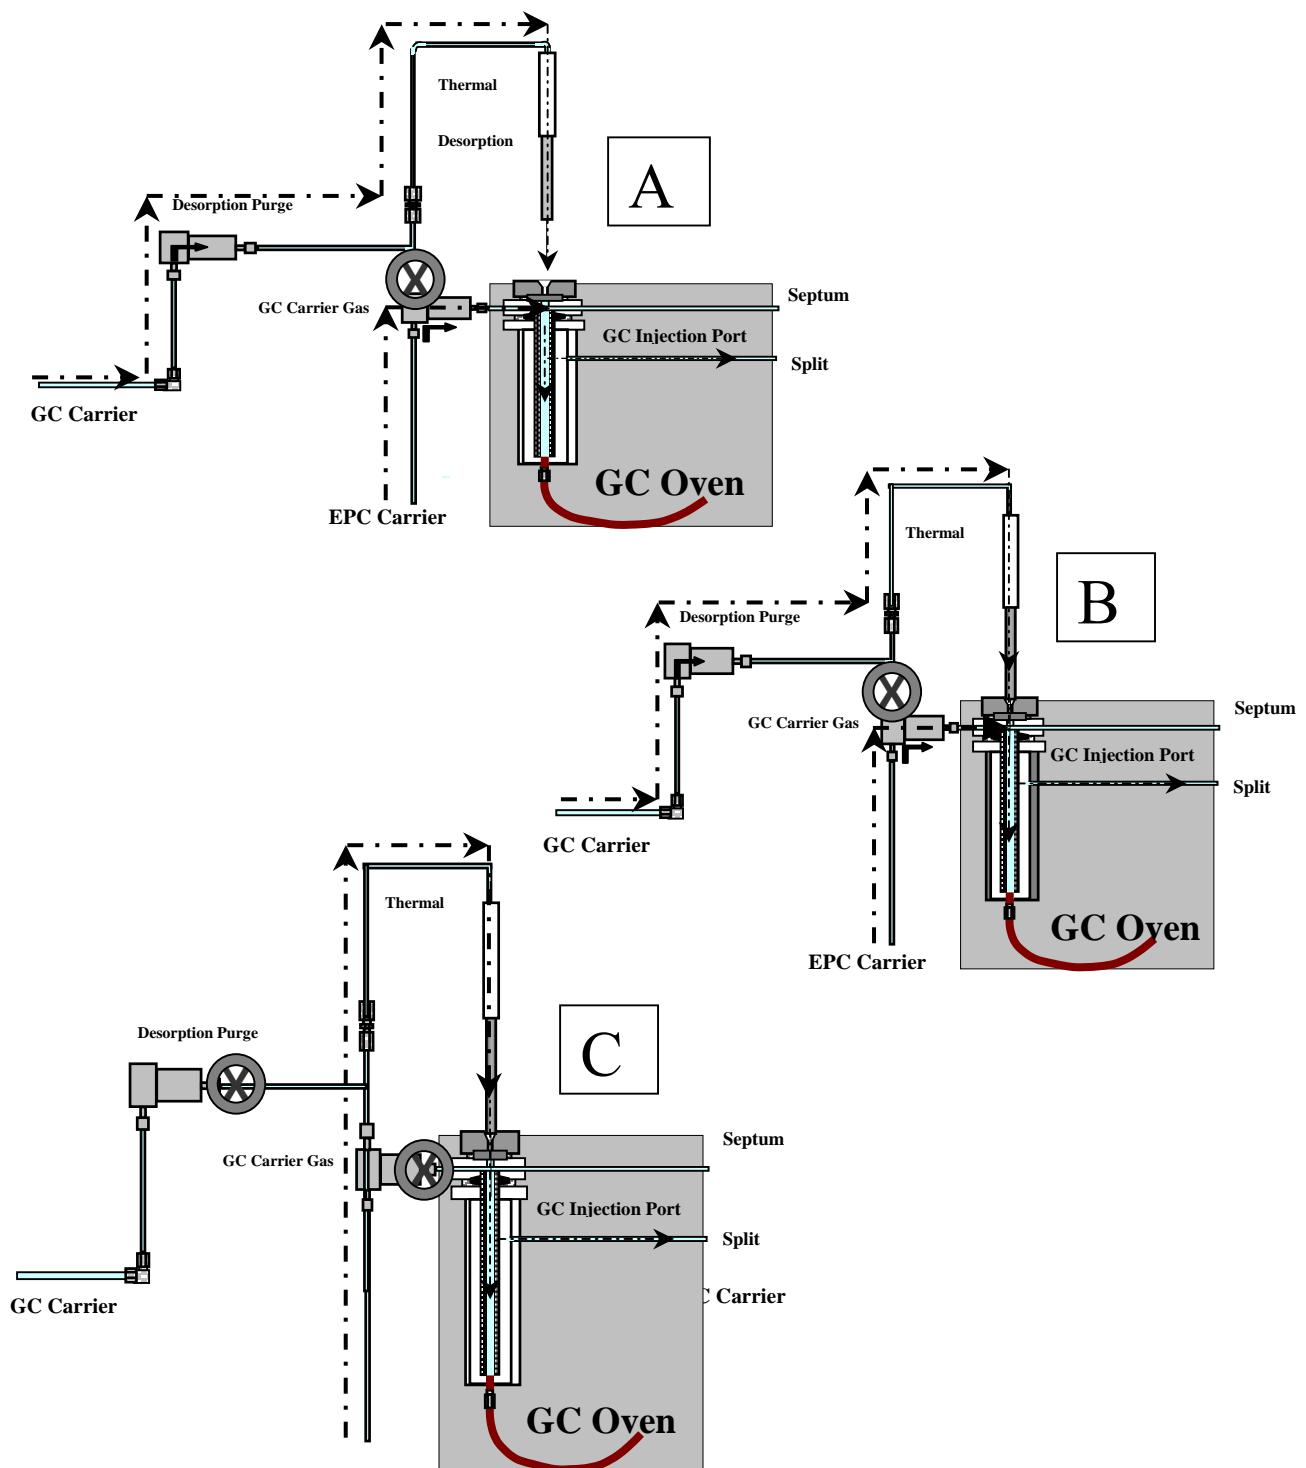

Figure 7-1 – Purge and divert gas operation
Care must be used in operating the thermal desorption system on instruments such as the Agilent (HP) 5890 series GC's, which operate with back pressure regulation on the injection port. In these instruments, any gas flow which exceeds the capacity of the column at the preset pressure will be diverted out of the split vent. During desorption the only flow into the GC injection port is through the desorption tube. The flow can be accurately regulated to provide either split or splitless injection. Figure 7-1 shows the flow schematic for the desorption system when using the carrier gas solenoid valve assembly part #7859993. The deactivated mode represents standard GC carrier operation. In the activated mode, during injection and desorption, the carrier flow is directed through the desorption system.
Figure 7-1 illustrates the carrier flow path during the Purge and Inject times. In Figure 7-1A carrier gas (indicated by the dotted line) is delivered to the column from the Electronic Pressure Control (EPC) system of the GC, and purge gas is directed through the Desorption Unit by a separate route. Figure 7-1B illustrates the flow immediately after the needle has penetrated the septum (two separate flows are entering the inlet). This is the state that is maintained during the system bakeout. Figure 7-1C shows the flow path of the carrier after the diverter valves have been activated. Note that the EPC now supplies the inlet through the Desorption Unit. Locations where flow has been turned off are indicated by a symbol X.